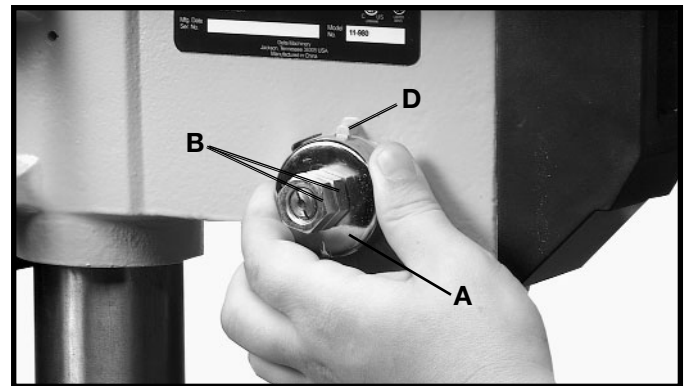

Fig. 33
3. While firmly holding spring housing (A) Fig. 33, pull out housing and rotate it until the boss (D) is engaged with the next notch on the housing. Turn the housing counterclockwise to increase and clockwise to decrease spring tension. Then tighten the two nuts (B) to hold the housing in place. **IMPORTANT:** Inside nut (B) should not contact spring housing (A) when tight.